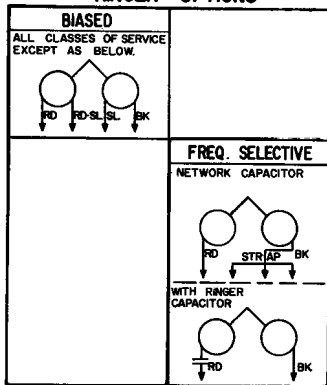

FIGURE 1.
- 1.01 This practice provides the connections for the 2500**(BA)33M type telephone set. This set is a desk type, lift to talk, touch-tone type of telephone instrument. See Figure 1.